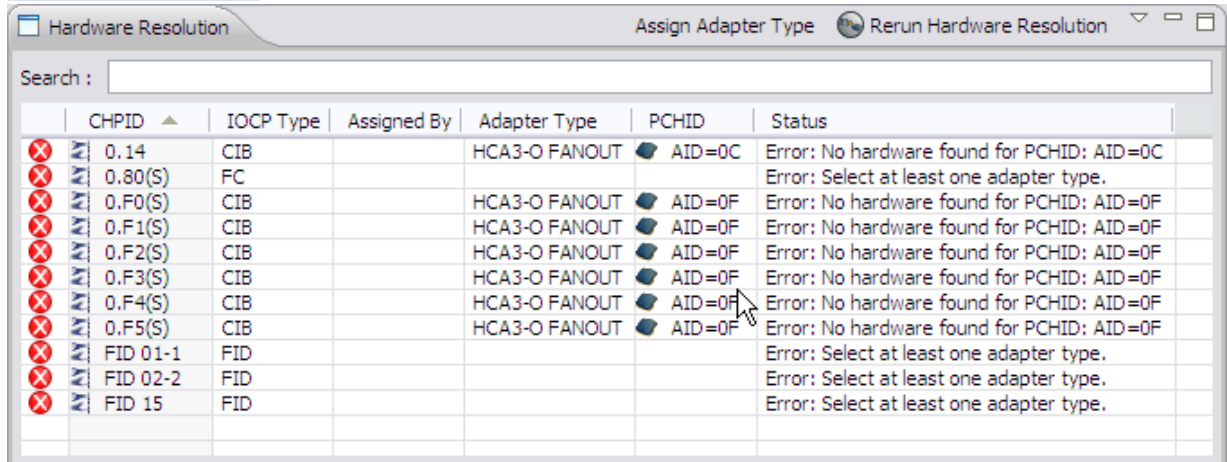

Figure 37. Hardware Resolution pane with Xs in first column
Figure 37 on page 30 shows the pane with Xs in red circles in the first column. .
**Note:** The Hardware icon (tilted square) in front of each PCHID number in Figure 37 on page 30 does not perform any action; it is for information purposes only.